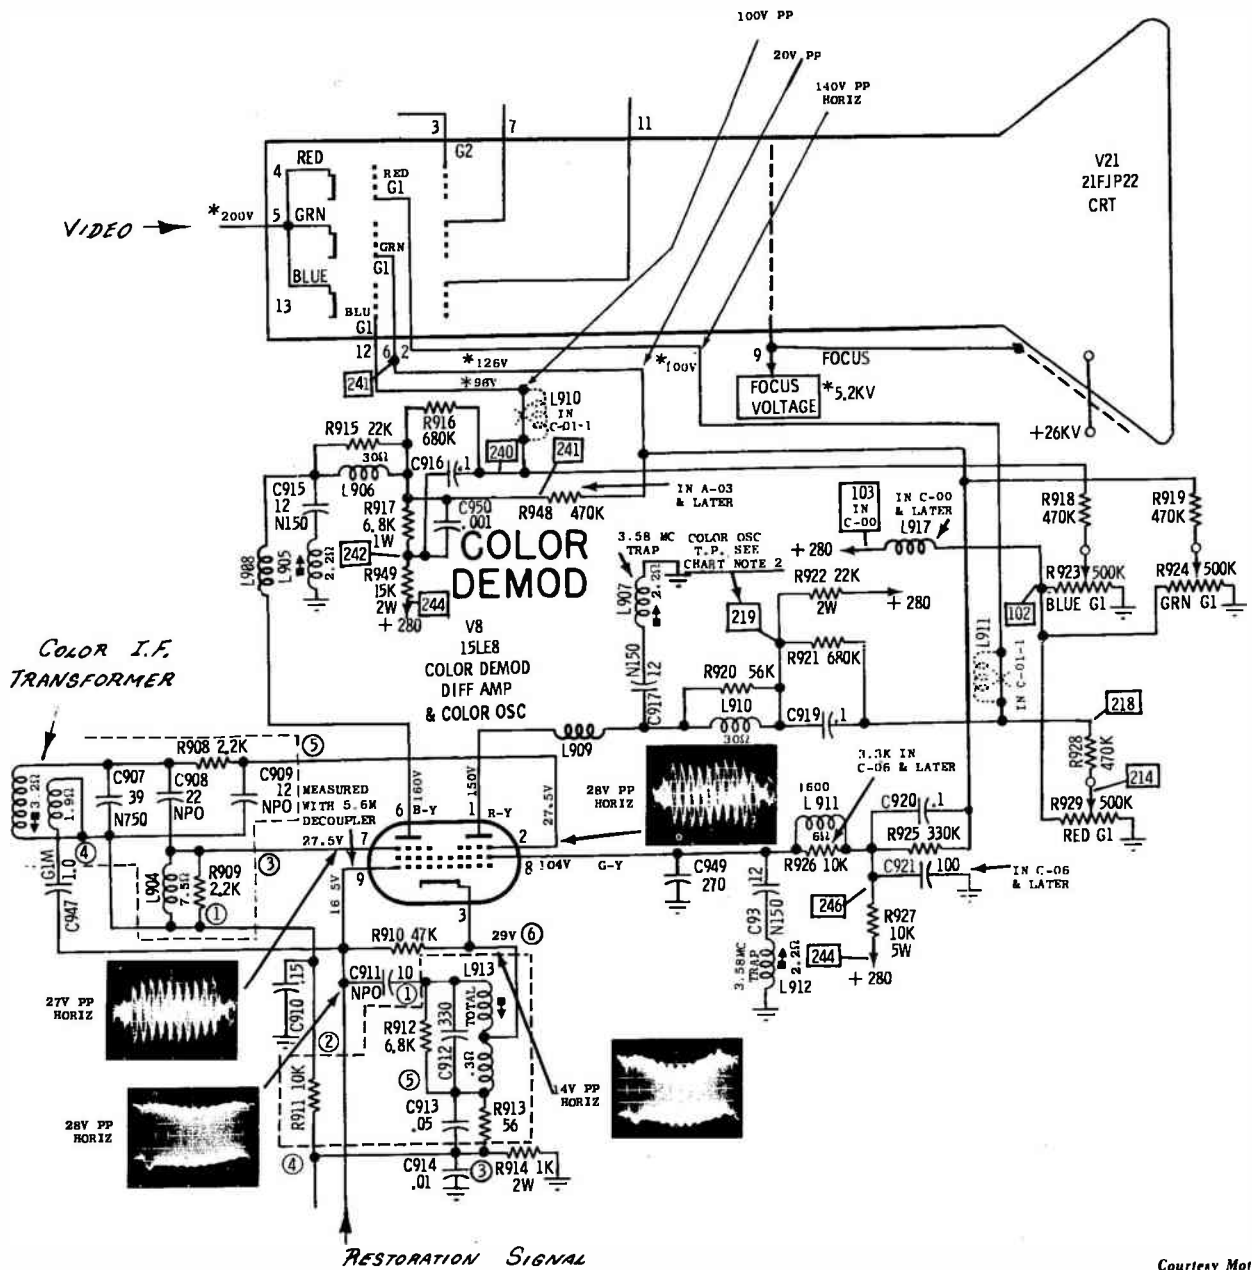

Fig. 24. Color difference demodulator used in a Motorola color TV receiver.
The demodulator circuit illustrated in Fig. 24 uses a twin pentode vacuum tube to perform several functions of the demodulation process. The 15LE8 twin pentode has two plates, a common cathode, two grids that are common to both sections and one separate grid for each section. The circuit takes advantage of the operating features of the tube to demodulate the color signal, operate a 3.58-mc oscillator, and to matrix and amplify the color difference signals. Let's examine each function of the circuit separately to see how it works.
Most color demodulator circuits shift the phase of the reference signal to one of the demodulators to demodulate the color signal on two different axes. The circuit in Fig. 24 uses the same reference signal to both demodulators and shifts the phase of the color signals to set the angular difference between the two demodulation axes. Notice that two color signals are taken off from the secondary circuit of the color i-f transformer. One signal is coupled through R908 to grid pin 2 of the R - Y demodulator section of the tube. The other color signal is coupled through C908 to grid pin 7 of the B - Y demodulator section of the tube. The R-C network (R908 and C909) in the grid, pin 2, circuit produces a lagging phase shift to the color signal applied to the R - Y demodulator grid. The L-C network (L904 and C908) in the grid, pin 7, circuit produces a leading phase shift to the color signal applied to the B - Y demodulator grid. The resultant difference in phase of the color signals to the two demodulators provides the correct separation of the two demodulation axes.
A G - Y color difference signal is developed on the screen grid of the demodulator tube in Fig. 24. To see how this takes place we must examine the internal operation of the tube. Since the screen grid pin 8 is common to both sections of the twin pentode, the screen will collect electrons from the tube current to both plates. The amount of screen current at any one instant depends on the signal on the separate grids. For example, a positive going signal on grid pin 7 will accelerate the electrons so only a few will be captured by the screen grid. On the other hand, a negative-
An adjustable bias potentiometer is located in each control grid circuit of the color picture tube. These bias controls are labeled red G1, blue G1, and green G1 in Fig. 24. These controls are used to set the proper operating bias for each of the three guns of the tube. Notice the relative peak-to-peak amplitude of the sig-
- (p) How is the 3.58-mc oscillator in Fig. 24 synchronized?
- (q) What is the function of the red G_1 , blue G_1 , and green G_1 controls in Fig. 24?